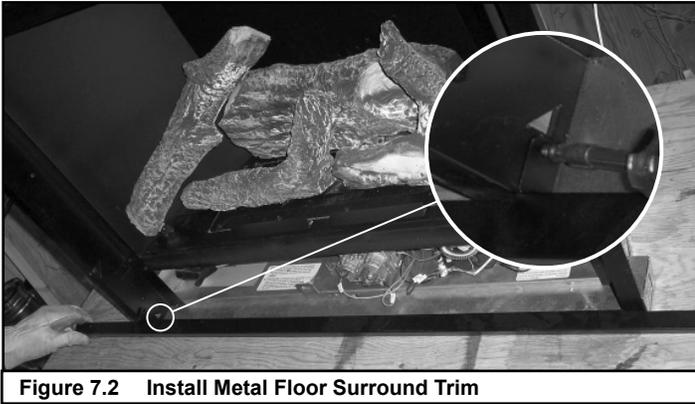

Figure 7.2 Install Metal Floor Surround Trim
- To install metal floor surround trim: Bend hand brakes and place over front lip of appliance front. See Figure 7.2.